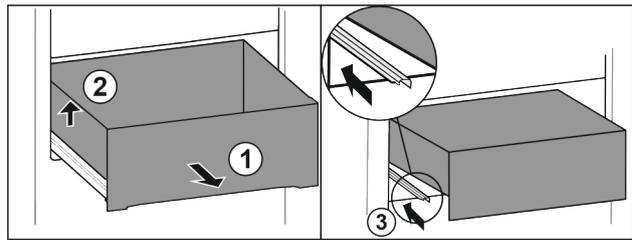

Fig. 74
- ▶ Pull out drawer as far as it will go. Fig. 74 (1)
- ▶ Lift drawer on the left. Fig. 74 (2)
- ▶ Insert left rail. Fig. 74 (3)